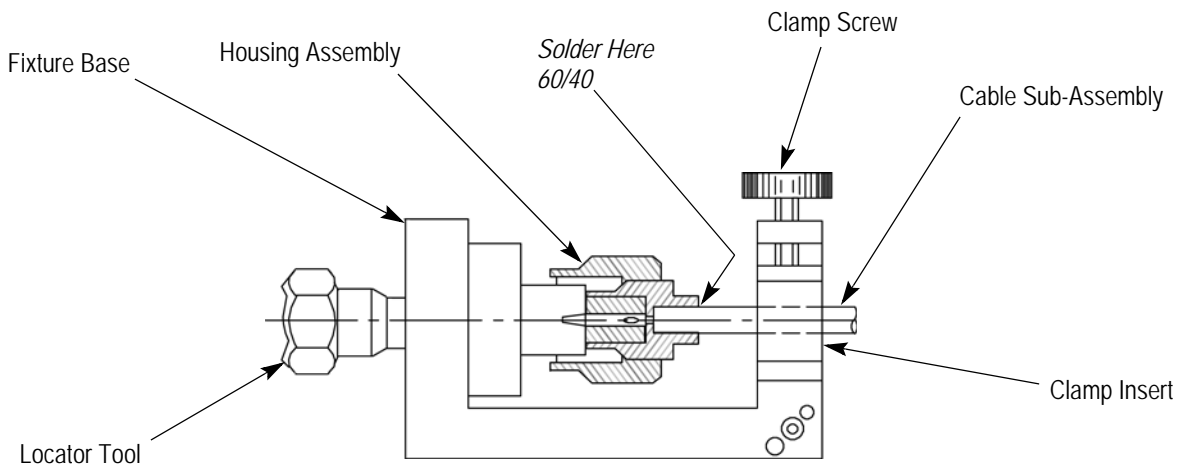

Figure 5
3. Place the loose assembly in fixture base as shown in Figure 5.